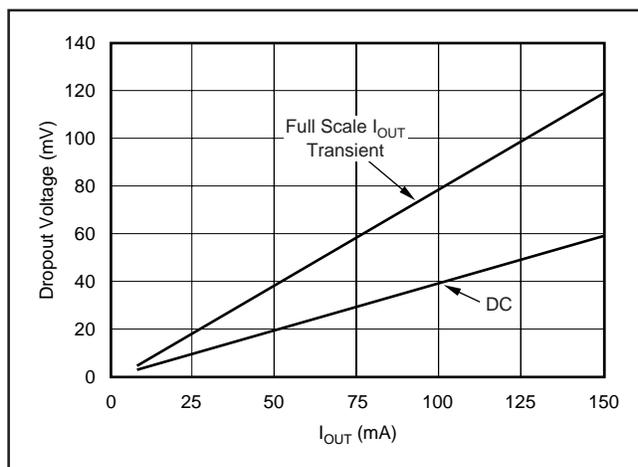

FIGURE 6. Transient and DC Dropout.
The REG101 uses an N-channel DMOS as the “pass” element. When the input voltage is within a few tens of millivolts of the output voltage, the DMOS device behaves like a resistor. Therefore, for low values of V_{IN} to V_{OUT} , the regulator’s input-to-output resistance is the $R_{ds(ON)}$ of the DMOS pass element (typically 600m Ω). For static (DC) loads, the REG101 will typically maintain regulation down to V_{IN} to V_{OUT} voltage drop of 60mV at full rated output current. In Figure 6, the bottom line (DC dropout) shows the minimum V_{IN} to V_{OUT} voltage drop required to prevent drop-out under DC load conditions.
For large step changes in load current, the REG101 requires a larger voltage drop across it to avoid degraded transient response. The boundary of this “transient drop-out” region is shown as the top line in Figure 6. Values of V_{IN} to V_{OUT} voltage drop above this line insure normal transient response.